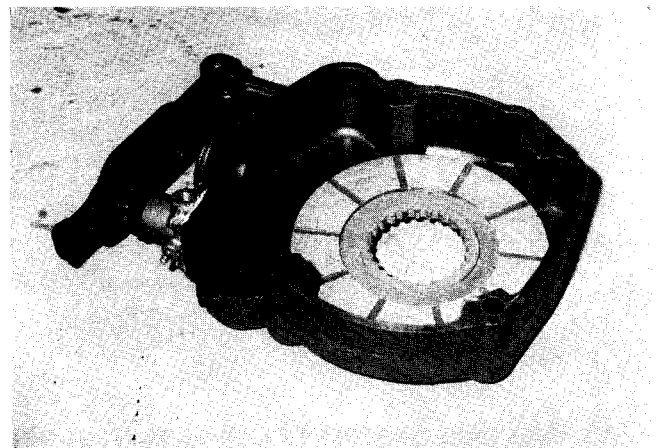

Figure 7
6. Install disc in housing. (Figure 7)